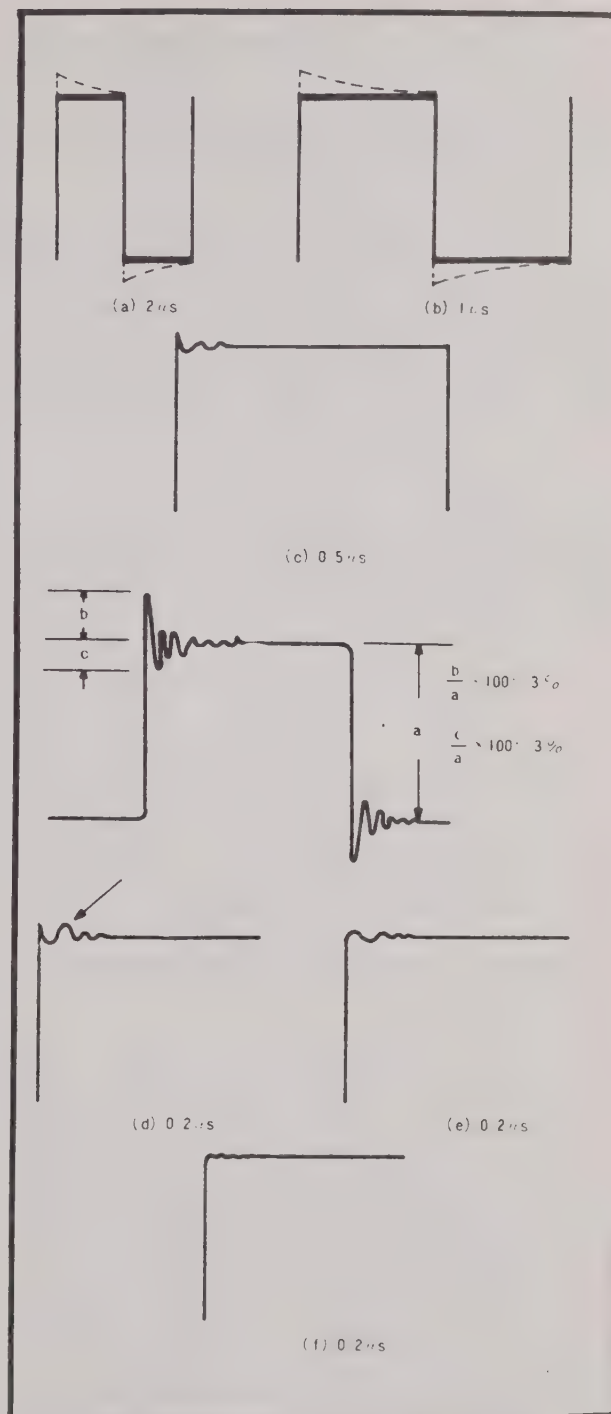

Fig. 26. Vertical Amplifier Frequency Compensation Adjustment.
4. Rotate SWEEP TIME/DIV control from 2 μ s to 0.2 μ s, observing the leading edge of the square wave as in Fig. 26. Make adjustments in the sequence listed in Table 7 for best overall square wave characteristic. Overshoot must be less than 3% (0.2 division). However, do not eliminate all overshoot as high frequency response will be degraded.